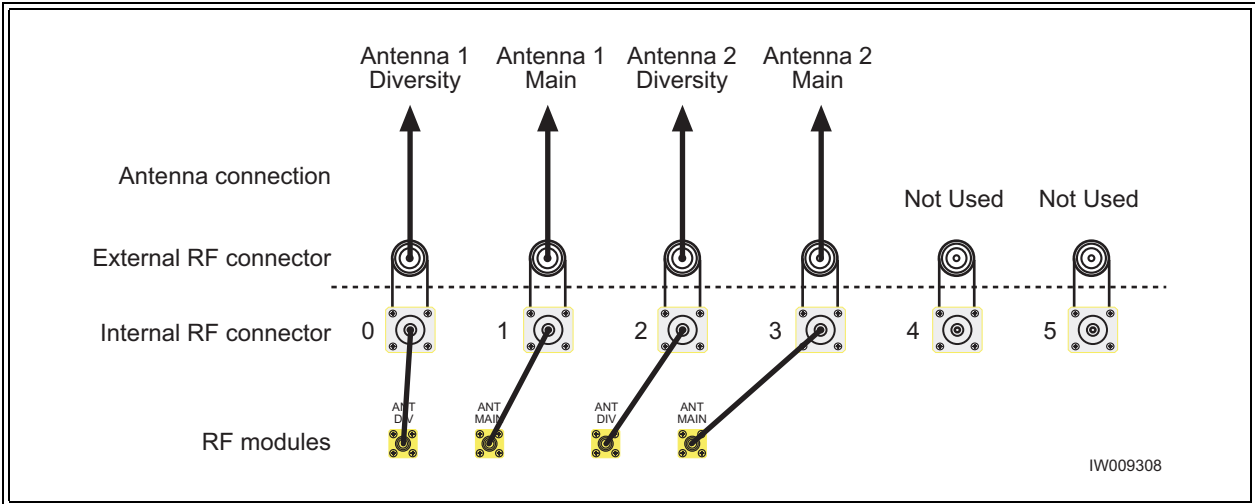

Figure 2-23 Antenna Cabling for S22 Configuration
- Connect your antennas as shown in Figure 2-23.